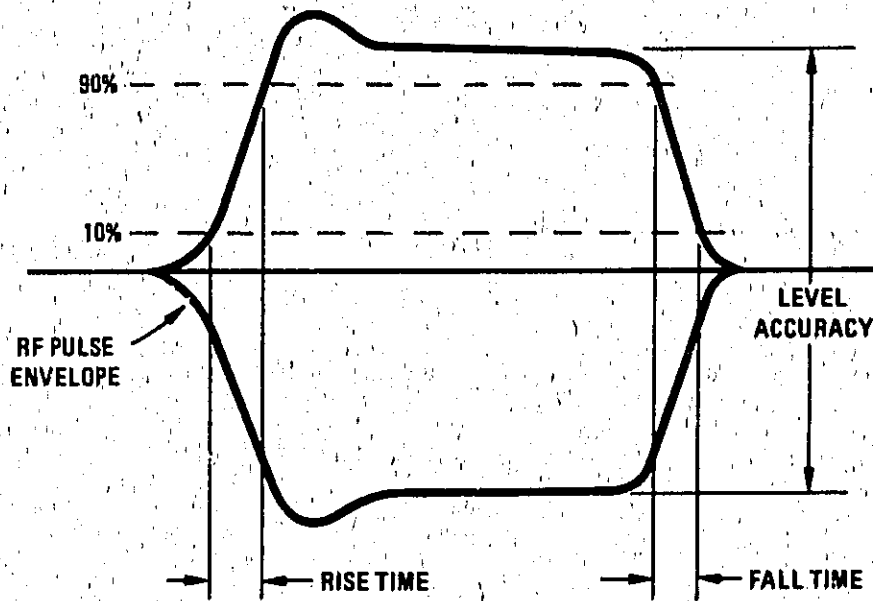

Figure 4-14. Pulse Measurements
3. Adjust oscilloscope to display the RF pulse envelope. Readjust the pulse width for 10 μs (measured at 50% amplitude points) and measure the rise and fall times (see Figure 4-14). Both should be less than 9 μs (measured between 10% and 90% of the full pulse amplitude).